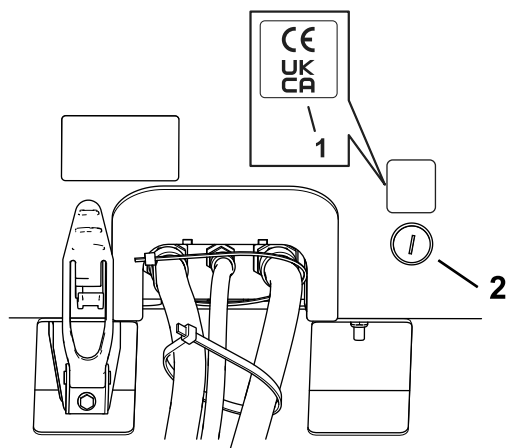

Figure 6
1. Use rubbing alcohol and a clean rag to clean the area of the hood next to the hood lock, and allow the hood to dry. (Figure 6).